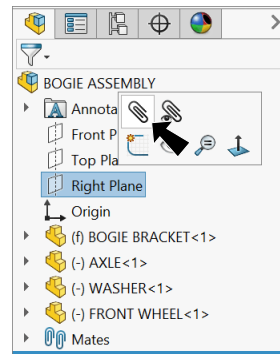

Fig. 12
Step 2. Click **Right Plane**  in the Feature Manager and **Mate**  on the context toolbar, Fig. 12.